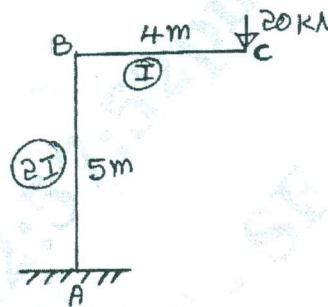

Fig.Q5(c)
- c. Determine the vertical and horizontal deflection point C for the mill bent as shown in Fig.Q5(c) by unit load method. (09 Marks)